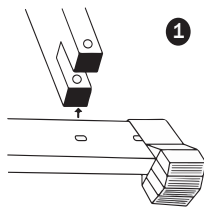

Fig. 41
- Insert stabilizer with the feet in the correct direction. (Fig. 41)